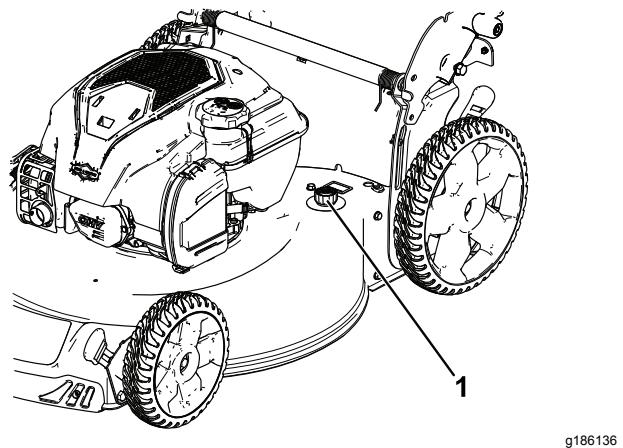

Figure 18
5. Attach a garden hose that is connected to a water supply to the washout port (Figure 18).